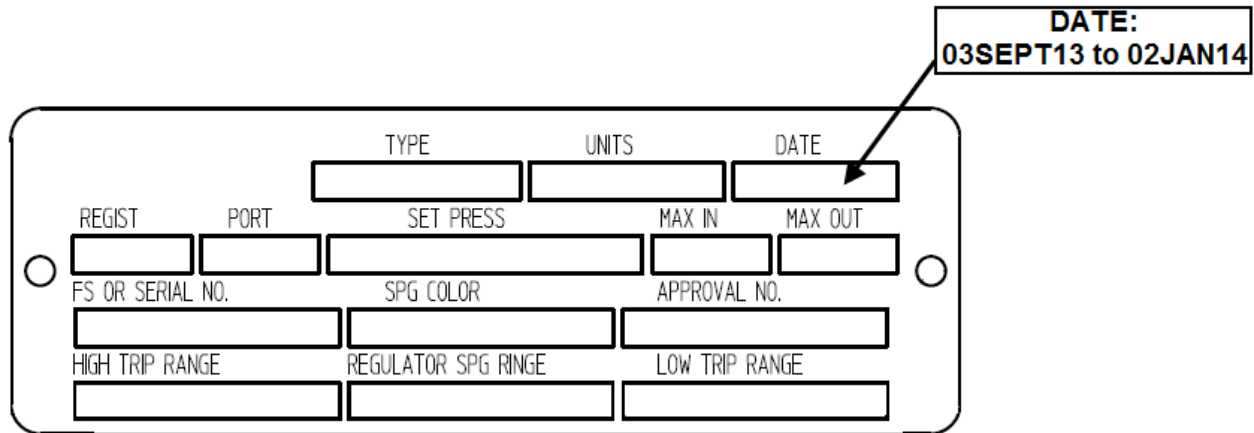

Figure 2: Date of Manufacture Location on Nameplate
1. Identify all 299H Series Regulators that you may have in service or inventory manufactured between September 3, 2013 and January 2, 2014. (*Information indicating the date of manufacture is located on the unit nameplate shown in Figure 2*)